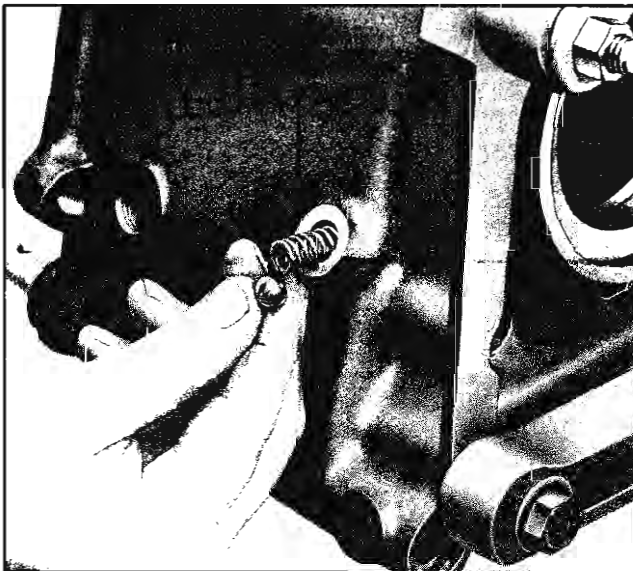

Fig. 7-34 Installing Detent Spring and Ball
10. Install detent spring and ball (Fig. 7-34), in that order, in detent cavity. Tap ball and spring to insure spring is resting on bottom of cavity.